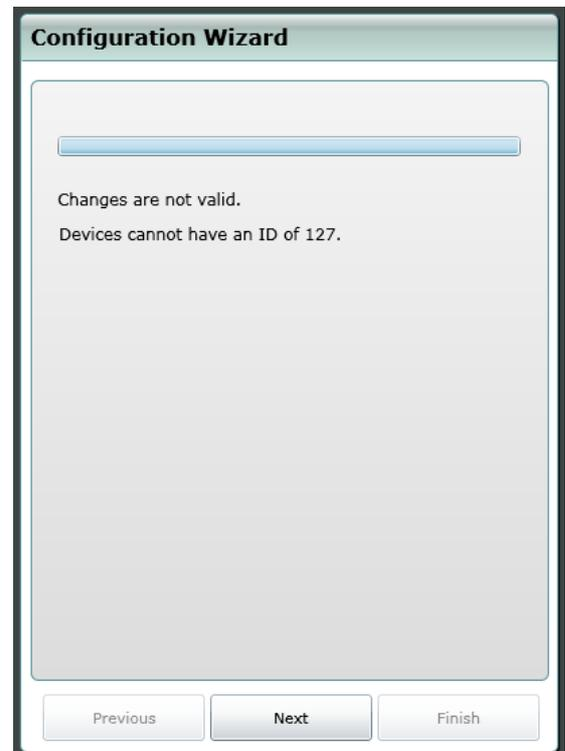

Figure 7.3.4
**Note:** You will not be allowed to proceed with the configuration wizard until a valid Comms ID is entered. Valid IDs are between 1 and 120. See Figure 7.3.4 below.
You will not be allowed to continue through the Configuration Wizard until all connected units have unique and valid Comms IDs (Figure 7.3.4).